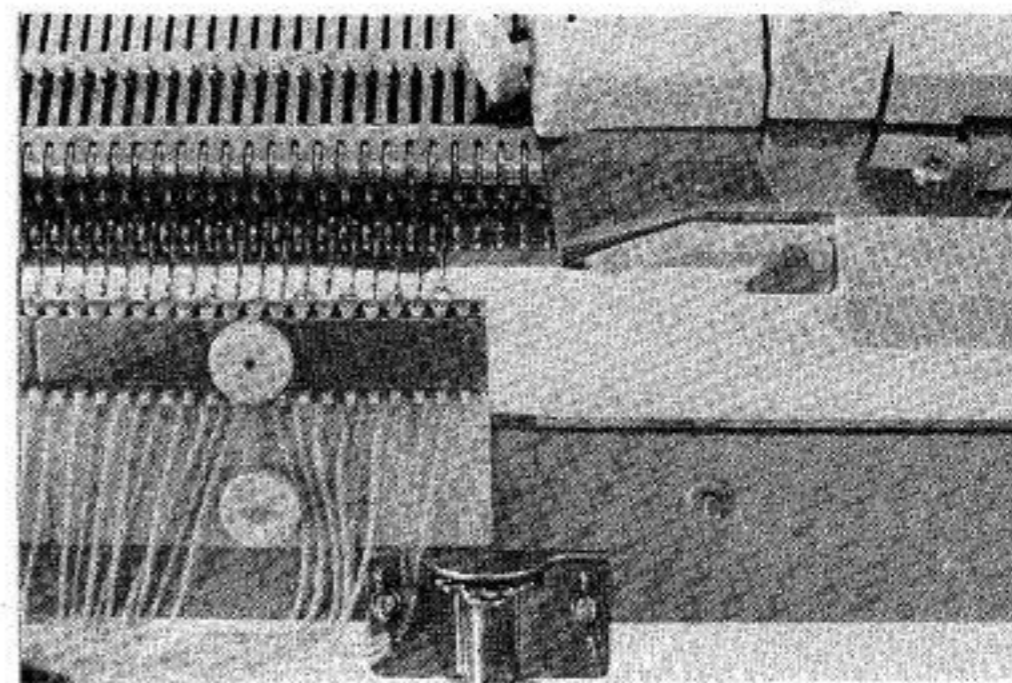

Fig. 17
- (2) With the Pitch Scale set at "●", place the loops of contrasting colour yarns into the hooks of all the needles in position "C".
- (3) Bring forward into position "E" all the working needles from positions "B" & "C" so that all the stitches, including the loops of contrasting colour yarns, are behind the open latches of the needles.
- (4) Making sure that both Return Cam Levers are in the forward position, knit one row. The end of the Carriage MUST be taken beyond the last V. P. K. unit. (See Fig. 17.)